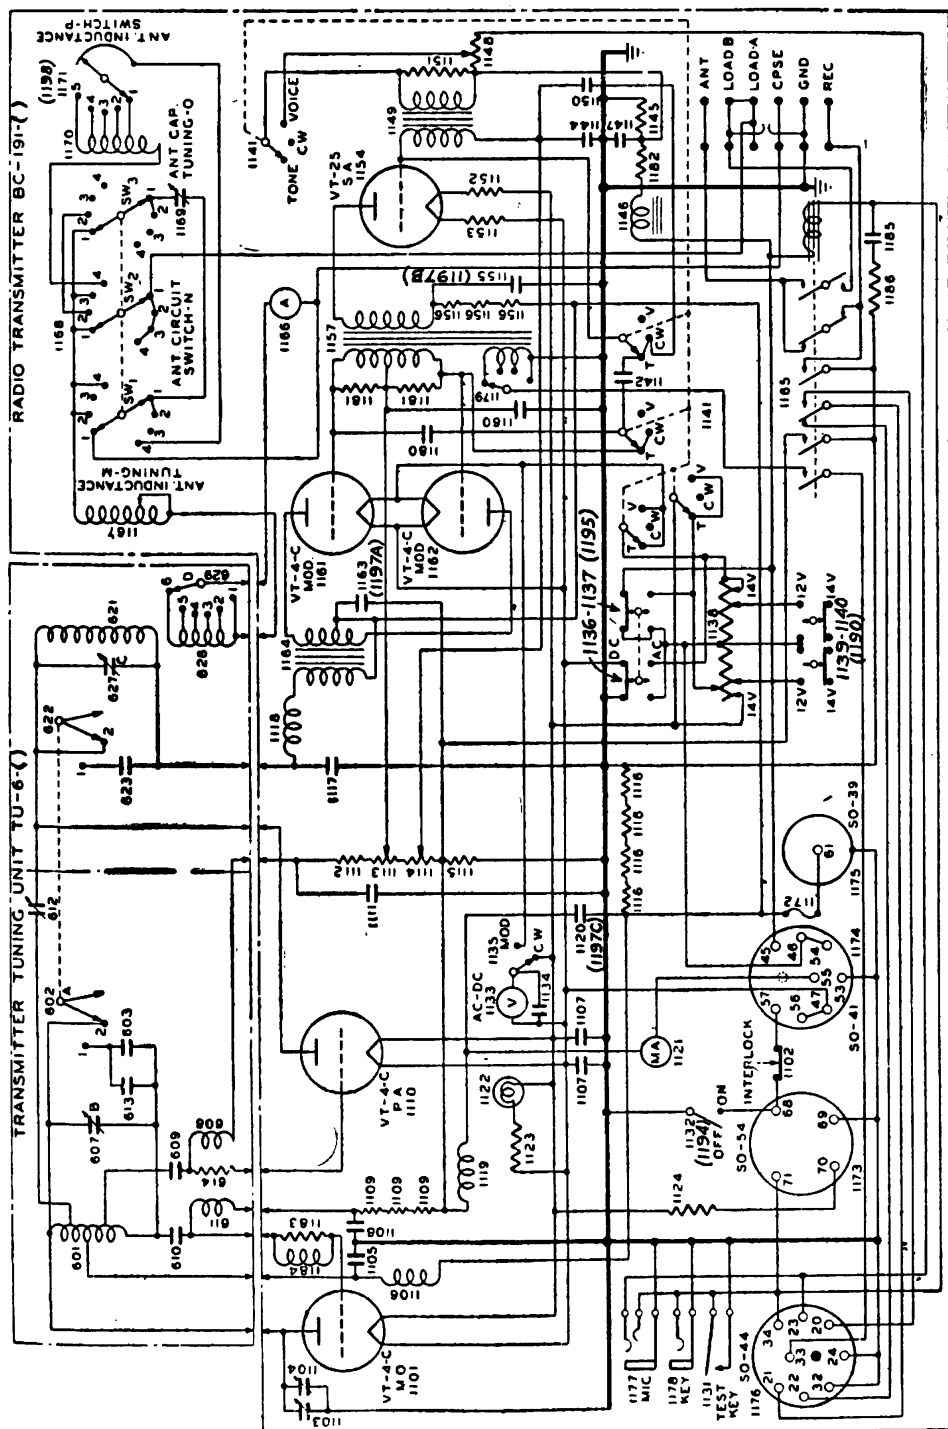

FIGURE 11.—Radio transmitter BC-191-(*) with transmitter tuning unit TU-6-A or -B—schematic diagram.
b. The circuits of the various radio transmitters BC-191-(*) are for all practical purposes identical. The radio frequency circuit is of the master oscillator, power amplifier type. The audio frequency circuit consists of a push-pull modulator which is driven by an audio amplifier. The transmitter utilizes a tube VT-4-C for the oscillator, a tube VT-4-C for the power amplifier, two tubes VT-4-C in push-pull for the modulator, and a tube VT-25 for the audio amplifier (speech amplifier). (See fig. 11.) For continuous wave transmission, only the master oscillator, power amplifier, and speech amplifier tubes operate. For tone and voice transmission, all tubes operate. The power amplifier operates class C; the modulator tubes in push-pull operate class B; the audio amplifier driver tube operates class A. Sufficient audio frequency power is obtained from the modulator tubes for plate modulation of the power amplifier on tone or voice transmission. Side tone for monitoring purposes is supplied from the speech amplifier during continuous wave, tone, and voice transmission.
(3) Plate voltage for the power amplifier is applied through the modulation transformer 1164, the radio frequency choke coil 1118, and the tank coil 621. The capacitor 1117, in conjunction with choke coil 1118, prevents radio frequency currents from flowing into the power supply. The neutralizing capacitor 612 in the tuning unit forms a part of a bridge circuit, including the power amplifier grid plate capacitance. Balancing this circuit by means of capacitor 612 prevents any interaction of the power amplifier on its grid input circuit, thus eliminating the possibility of self-oscillation of the amplifier. All transmitter tuning units are properly balanced or neutralized at the time of manufacture and should not require adjustment in service unless the setting is accidentally disturbed. The power amplifier is inductively coupled to the antenna circuit by means of a tapped inductor 628, the taps of which are selected by a panel-controlled tap switch 629, ANTENNA COUPLING SWITCH D. Sufficient variation in coupling is provided to allow operation into a wide range of antenna reactances.
d. Tone, continuous wave, and voice operation.—(1) The TONE C. W. VOICE switch, 1141 (fig. 11), serves to select the desired type of transmission. It performs the following functions:
g. Filament circuit.—The transmitter is so designed that it can be operated from either a d-c source or an a-c source in connection with a power supply unit consisting of a high voltage rectifier for plate supply, a low voltage rectifier for the control circuits, and a transformer to furnish a-c filament supply. The A-C D-C switch 1195 (1136-1137) (fig. 11) performs the circuit changes to allow the transmitter to be operated from either source.